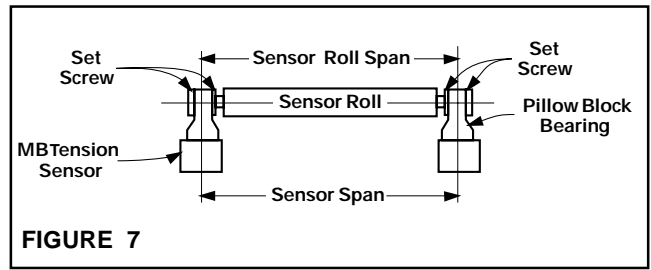

FIGURE 7
- Sensor Roll span must equal sensor span. This is achieved by securing the MB Tension Sensor to the mounting surface, then the Pillow Block Bearings to the MB Tension Sensors, and finally the bearings to the Sensor Roll shaft (See Figure 7).
- When MB Tension Sensors are mounted to a base of material different than that of the Sensor Roll, i.e., aluminum roll, steel mounting base; secure only one Pillow Block Bearing to the roll shaft. This will allow for different rates of thermal expansion (See Figure 7).